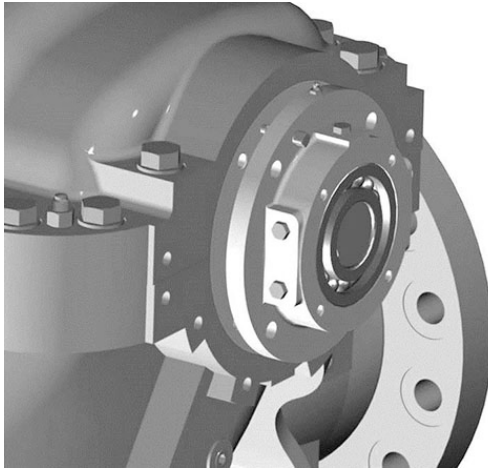

Figure 33
6. Evenly tighten the two jacking screws on the outboard bearing body so that the bearing body assembly slides towards the end of the shaft (see Figure 33). Pull the bearing housing assembly off the remaining portion of the shaft. Pry bars may be used to assist in pulling the bearing housing assembly off the shaft.